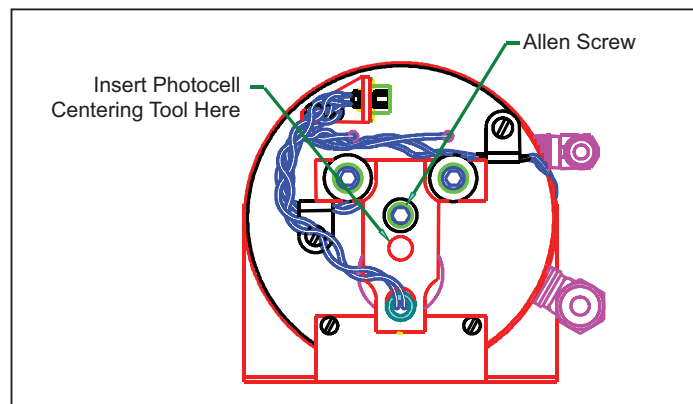

Figure 6-9. Photocell Location
7. Refer to Figure 6-9, slightly loosen the Allen screw on the back of the sensor bracket, making sure to maintain a snug fit on the screw. Using the T-shaped Photocell Centering Tool (part number 7250-111), adjust the photocells by placing the tool in the hole in the back of the sensor and turning the tool slightly. The screen will show a number of horizontal lines. The top yellow bar represents the current zero setting. The bottom portion of the bar has a green bar in the center and two red bars on either end. If the top yellow bar is over the red bar, then mechanical zeroing is required. If the yellow bar is over the green bar, then no adjustment is required.